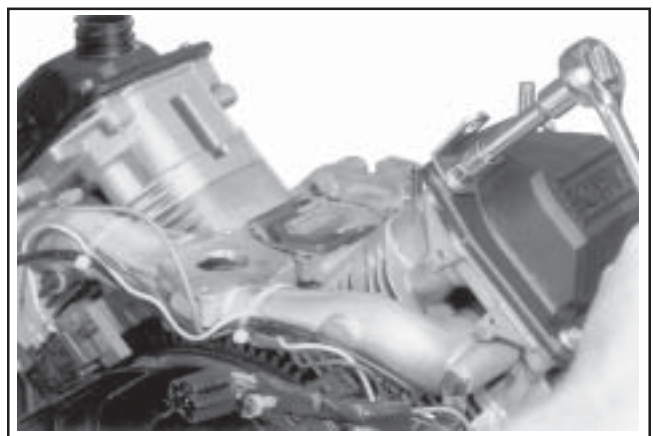

**Figure 9-44. Removing Breather Reed.**
7. Remove the hex flange screw, breather reed retainer and breather reed. See Figure 9-44.